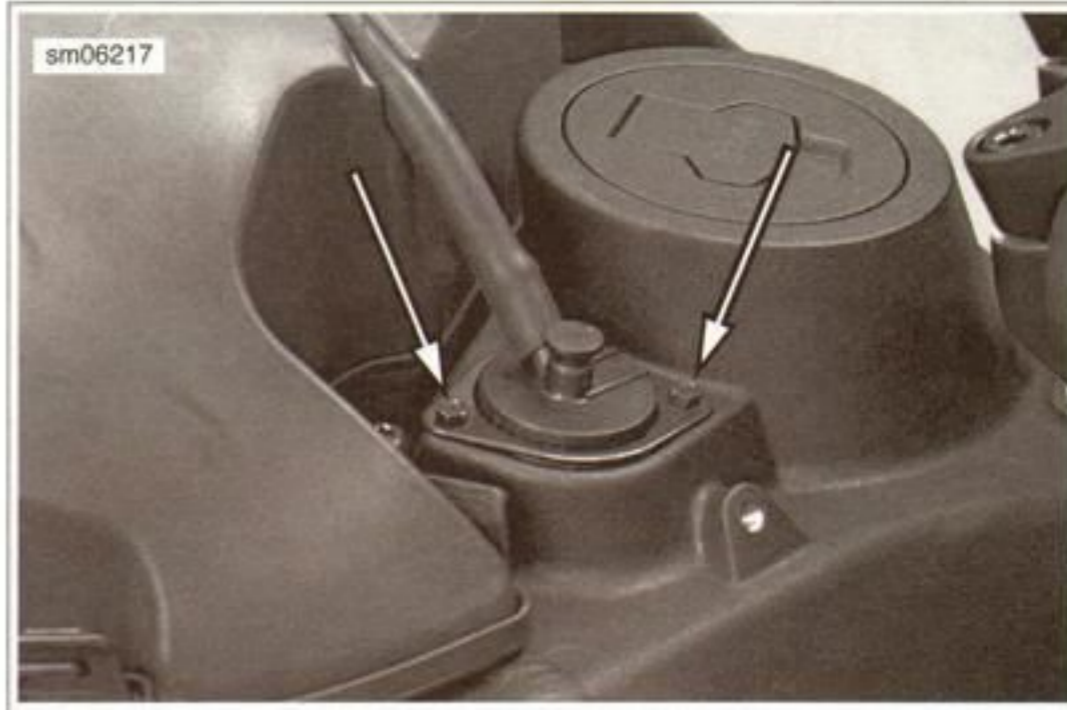

Figure 4-55. Fuel Vent Valve Fasteners
7. See Figure 4-55. Remove the fasteners.